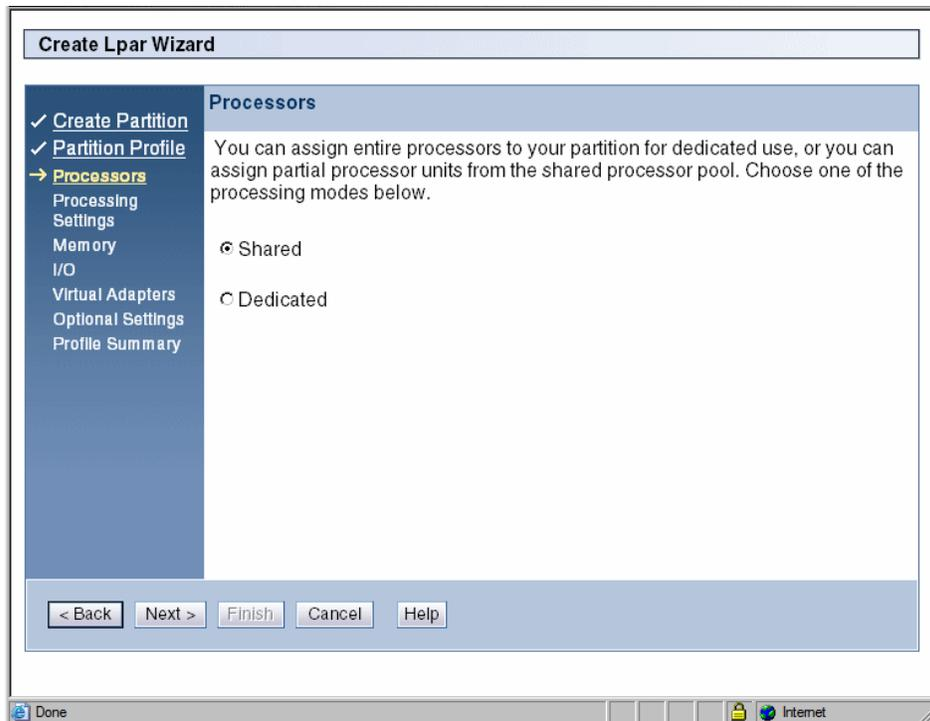

Figure 7-9 Create a shared processor partition
1. Select **Shared** and then select **Next**, as shown in Figure 7-9.